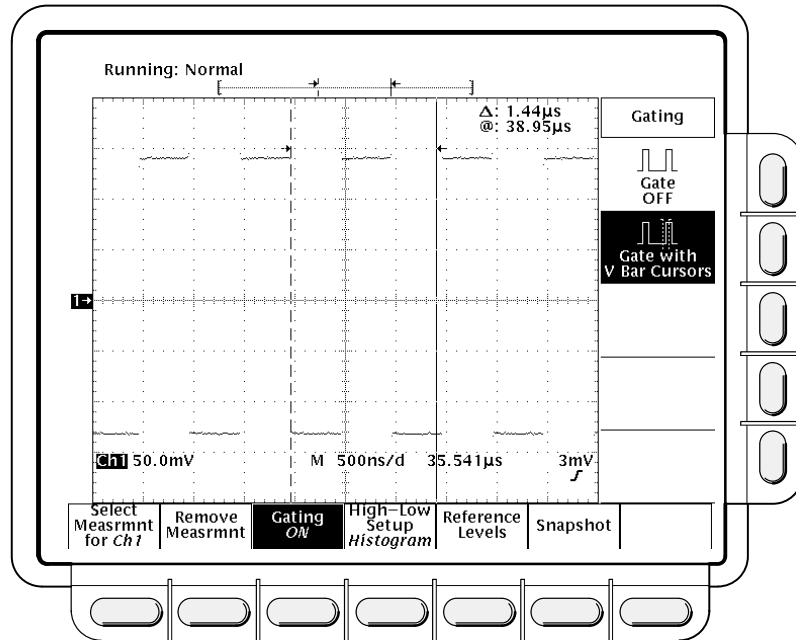

Figure 3-34: Measure Menu—Gating
1. Press **MEASURE** → **Gating** (main) → **Gate with V Bar Cursors** (side) (see Figure 3-34).